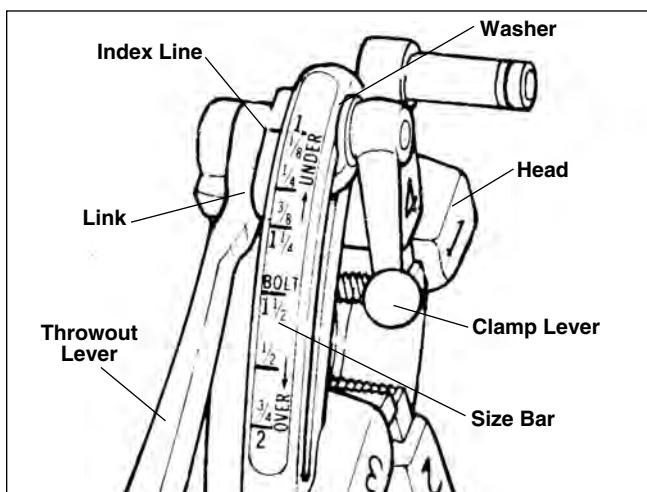

Figure 12 – Universal Quick-Opening Die Head
5. Quick-Opening 811A Die Head (*Figure 12*) – Rotate throwout lever to the CLOSED position.
10. Quick-Opening 811A Die Head (*Figure 12*) – When thread is completed, raise throwout lever to open position, retracting dies.
NOTE! The No. 811A Universal Die Head (*Figure 12*) for right hand threads requires four sets of dies to thread pipe ranging from $\frac{1}{8}$ " through 2". One set of dies is required for each of the following pipe size ranges: ($\frac{1}{8}$ "), ($\frac{1}{4}$ " – $\frac{3}{8}$ "), ($\frac{1}{2}$ " – $\frac{3}{4}$ ") and (1" – 2"). The $\frac{1}{8}$ " pipe dies are not available for left hand die head. Bolt threading requires a separate set of dies for each bolt size. No bolt dies are available for left hand universal die heads.